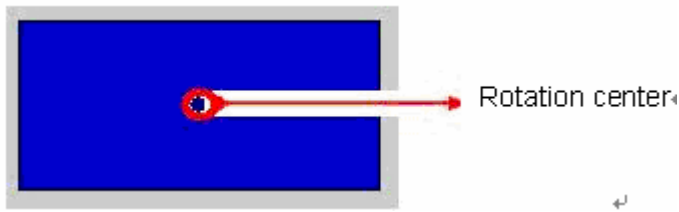

Figure 3-6 Rotation center of Rectangle
1. Build a Rectangle and right-click it. Select Rotate from its pop-up menu, then the Rectangle displays its rotation center shown in Figure 3-6.